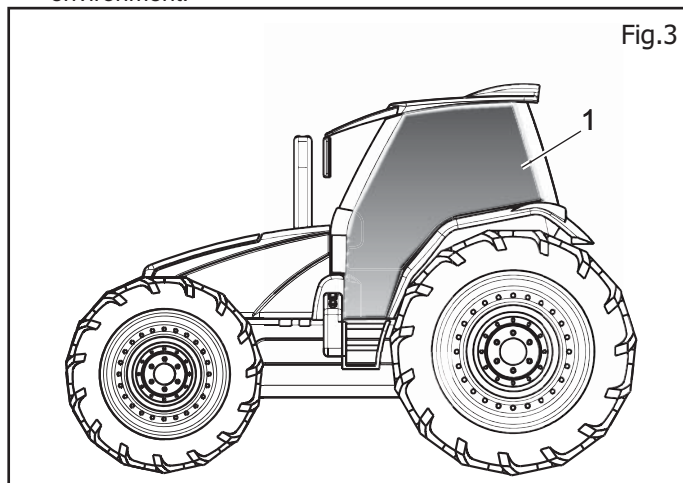

Fig.3
- 15) To protect the operator from any shards, stones or other, mount on the driving cab, on the operating side, a 10 mm thick sheet to prevent the objects thrown from the tool end from breaking the windows of the cab and causing injuries to the operator. (1 Fig.3)